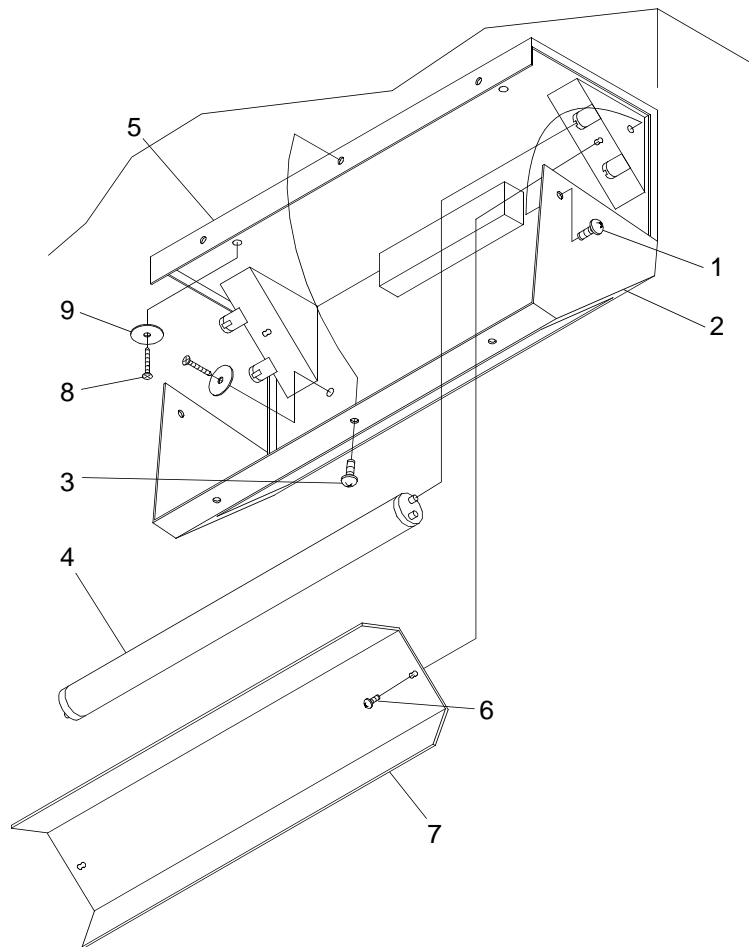

Figure 2. Head Fluorescent Light Fixture
2. Remove two screws (figure 2, item 1) from sides of fixture cover (figure 2, item 2).
3. Remove three screws (figure 2, item 3) from front of fixture cover (figure 2, item 2) and allow cover (figure 2, item 2) to swing down.
4. Remove fluorescent lamps (figure 2, item 4) from fixture base (figure 2, item 5).
5. Remove two screws (figure 2, item 6) retaining reflector (figure 2, item 7) to fixture base (figure 2, item 5).
6. Label, disconnect and remove wiring from fixture base (figure 2, item 5).
7. Remove four drywall screws (figure 2, item 8) and washers (figure 2, item 9) retaining fixture base (figure 2, item 5) to ceiling and wall. Discard fixture.
8. Position and install four drywall screws (figure 2, item 8) and washers (figure 2, item 9) to retain new fixture base (figure 2, item 5) to ceiling and wall. Tighten drywall screws (figure 2, item 8).
9. Install and connect wiring in fixture base (figure 2, item 5).
10. Position and install two screws (figure 2, item 6) to retain reflector (figure 2, item 7) to fixture base (figure 2, item 5).
11. Install fluorescent lamps (figure 2, item 4) in fixture base (figure 2, item 5).
12. Swing fixture cover (figure 2, item 2) up into position and install three screws (figure 2, item 3) at front of fixture cover (figure 2, item 2).
13. Install two screws (figure 2, item 1) in sides of fixture cover (figure 2, item 2).